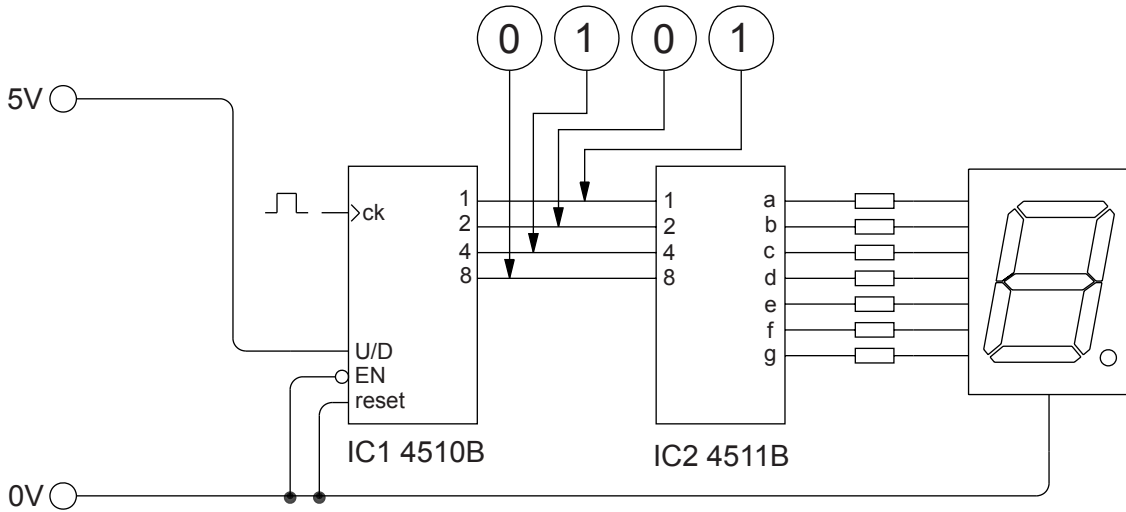

Fig. 13
- 5 (a) Part of the circuit for a digital dice is shown in Fig. 13.